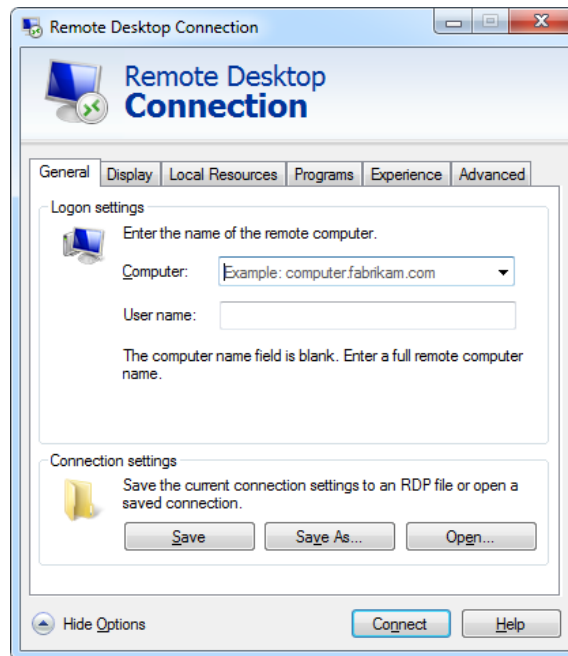

Figure 69. Remote Desktop Connection - General
12. Click **General**. The **General** window appears (Figure 69).